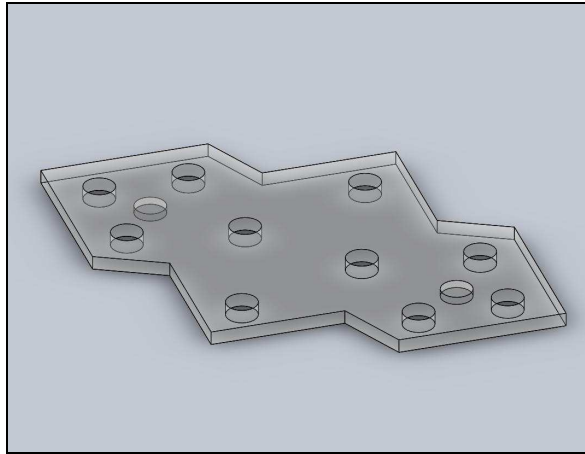

Figure 10: Top piece cut out with tape removed.
- D. Repeat until the top piece is completely cut out as shown in Figure 10. Then, remove the tape.